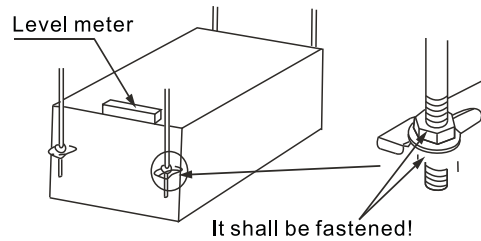

Figure 3.7
3) Confirm the levelness of the main body by the level meter (strictly prohibit the declination toward the non-drain side. It had better decline toward the drain side). Refer to Figure 3.7.